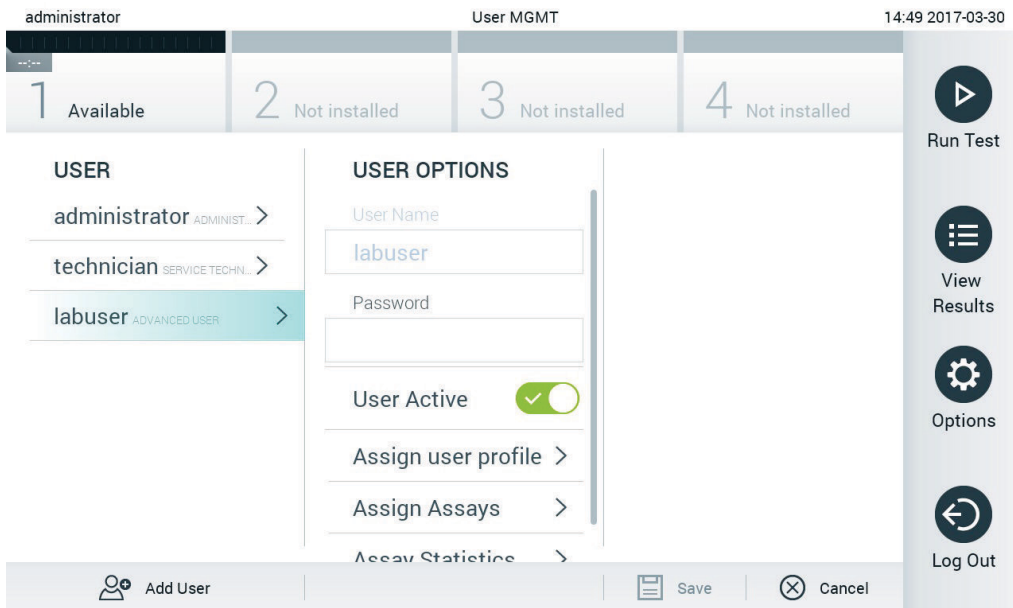

Figure 53. Selecting and managing users.
2. Select the user to manage from the list in the left column of the content area (Figure 53).